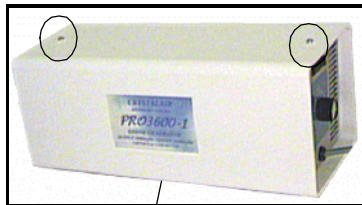

Figure 1 (PRO 3400)
1. (PRO 3400) Locate and remove three Robertson screws from the top and bottom of the unit. Be very careful not to strip the screw holes when replacing. **(SEE FIG. 1)**